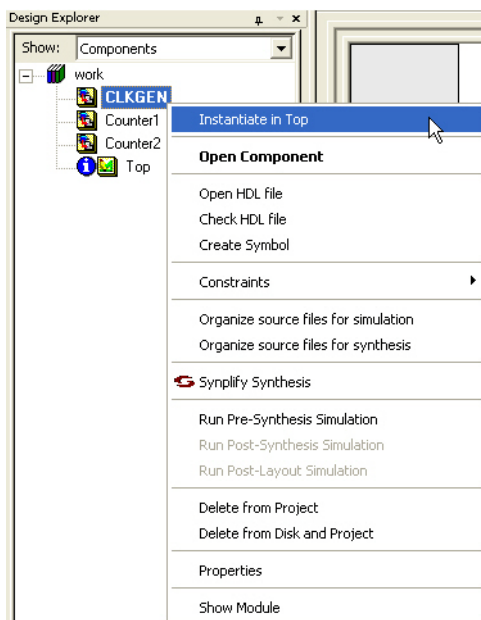

Figure 1-15 • Instantiate Components to SmartDesign Canvas - CLKGEN
3. Right-click the PLL component **CLKGEN** in the Hierarchy tab and choose **Instantiate in Top** to add it to the SmartDesign Canvas (Figure 1-15).